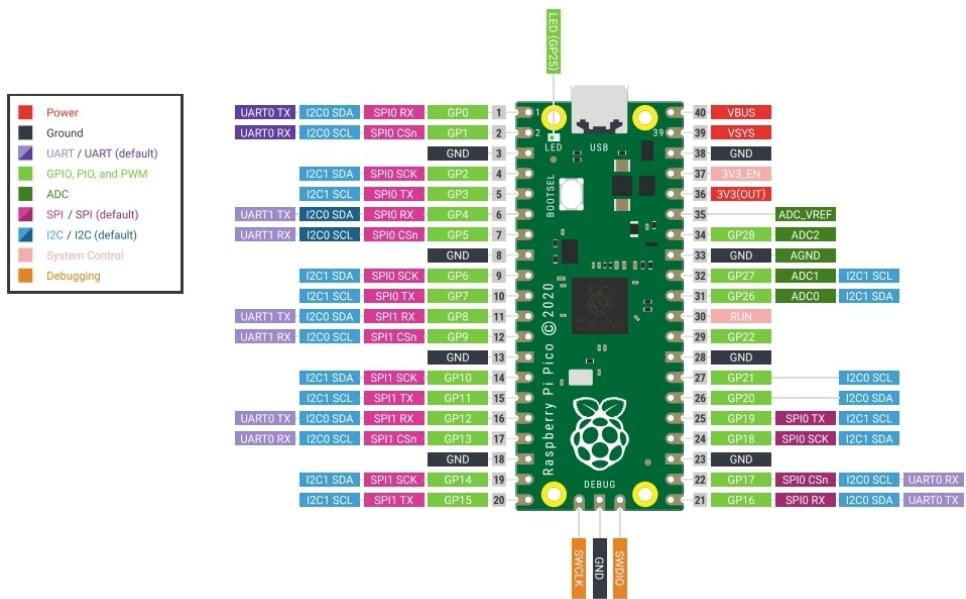

Fig. B.1: Pin diagram
**Solution:** Connect the LED to pico as per Table B.1 and Fig. B.1